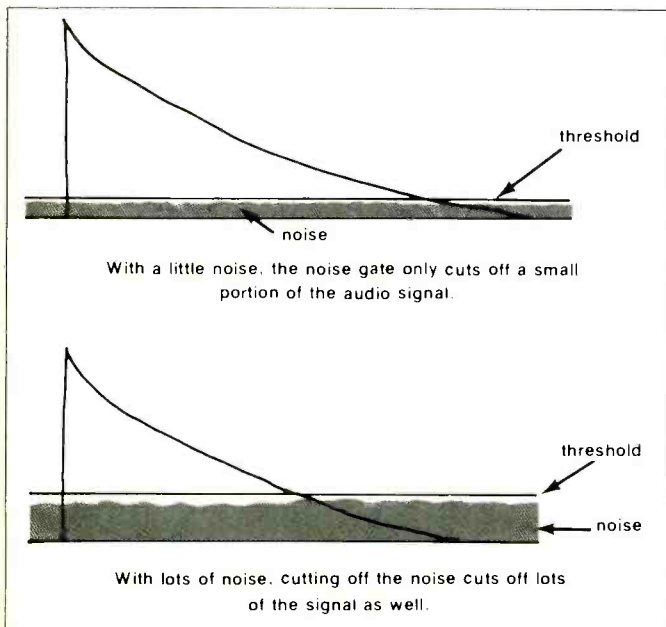

Figure 3
- Noise gates work best on signals that don't have too much noise to begin with. For example, if there's only a tiny bit of hiss on a signal, no problem—just set the threshold, and when the gate cuts off, the instrument signal will be at such a low volume that this gating action won't affect the sound of the instrument much. But consider what happens when the hiss is prominent: if you set the threshold high enough to eliminate the hiss, you're also eliminating a large portion of the sound as well. Consider a decaying guitar string, as shown in *Figure 3*. With lots of hiss, you're losing much of the string's decay when the gate closes.